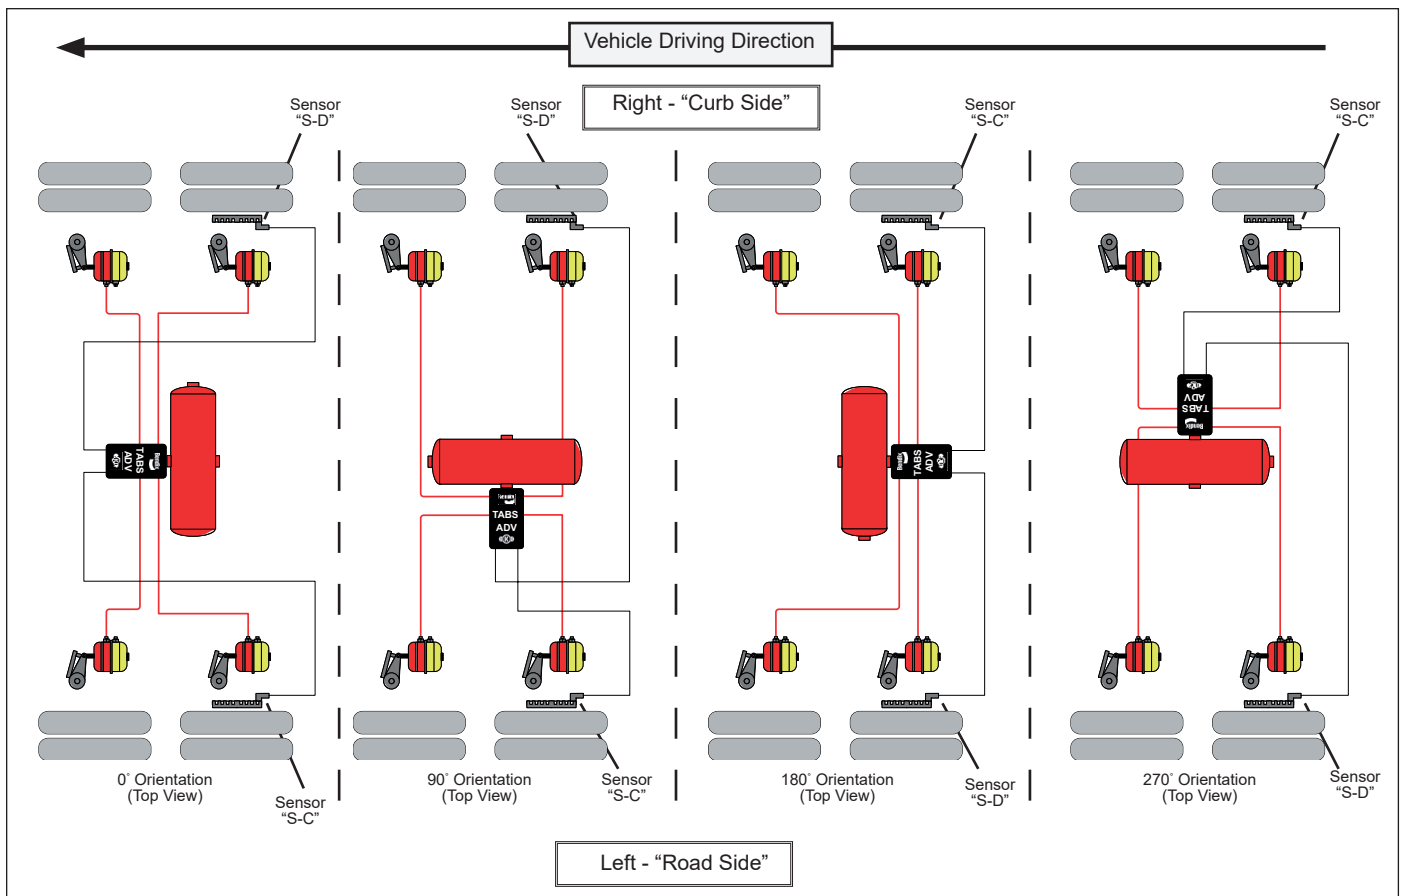

Figure 18 – Wheel Speed Sensor (WSS) Installation
NOTE: The WSS must follow the orientation of the module as shown in Figure 18 for fixed-axle trailers.
- Care should be taken to ensure the WSS location matches the ECU orientation in Figure 18. If this is not the case, a DTC will be generated and the Bendix ABS indicator lamp will be illuminated.